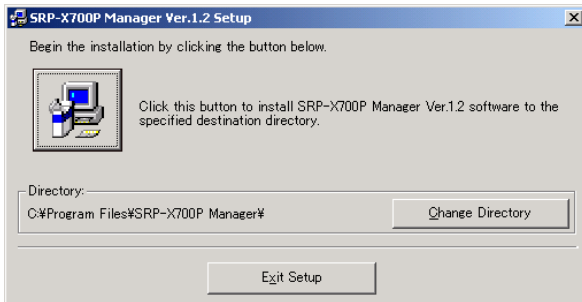

Fig. 1
- ② The SRP-X700P Manager installation screen appears.
- ③ When the screen [Welcome to the SRP-X700P Manager installation program] appears, click OK.
- ④ When the screen [Begin the installation by clicking the button below] appears, click the Setup icon on the top left of the screen. (Fig. 1)